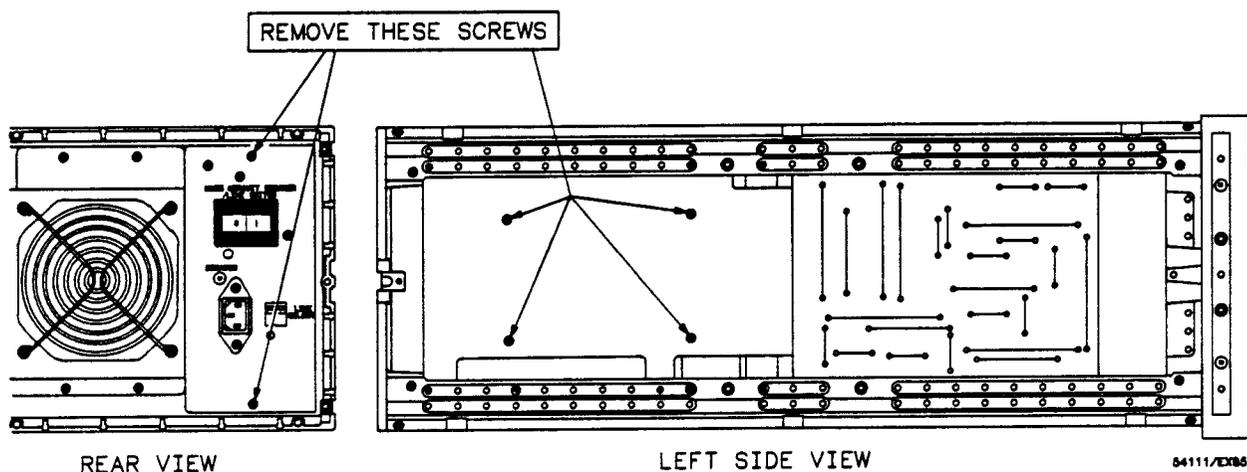

Figure 6A-2. Primary Power Supply Mounting Screws.
8. Remove four screws from power supply side cover (figure 6A-2).
9. Remove two screws which attach power supply assembly to rear panel (figure 6A-2).